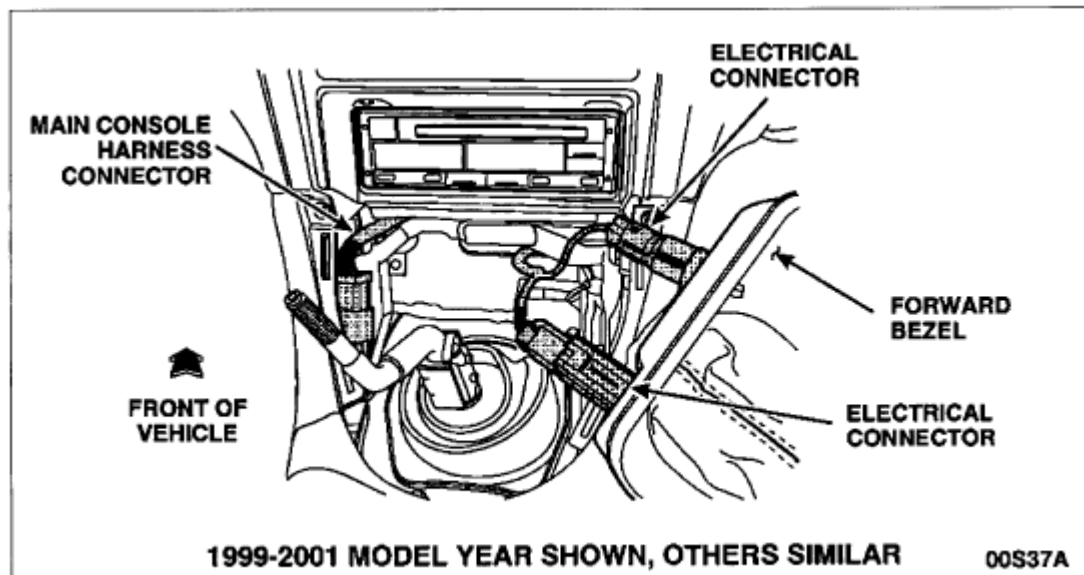

FIGURE 1
3. Carefully unsnap the forward bezel from the console and disconnect the electrical connectors. On 1999-2001 model year vehicles, disconnect the main console harness connector. See Figure 1.